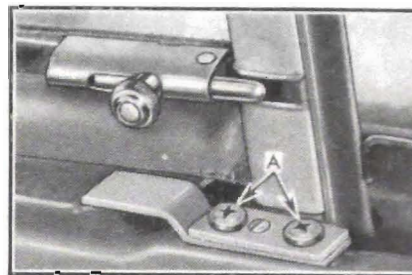

Fig. 1-58. Division Channel Attachment—Belt
- 3. Remove the two self-tapping screws attaching door division channel to the top edge of door inner panel as shown at "A", Fig. 1-58.